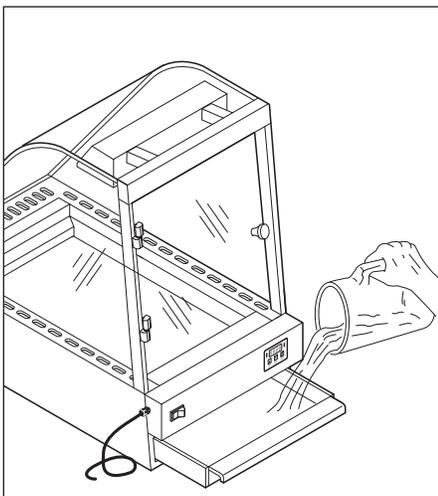

Figure 2. Filling Water Tray (DCH-100 shown)
- If a dry environment is desired, **DO NOT** add water to the Water Trays. If a humid environment is desired, add water to the Water Trays as shown in Figure 2. If more humidity is desired, remove the Diffusers from the Water Trays.